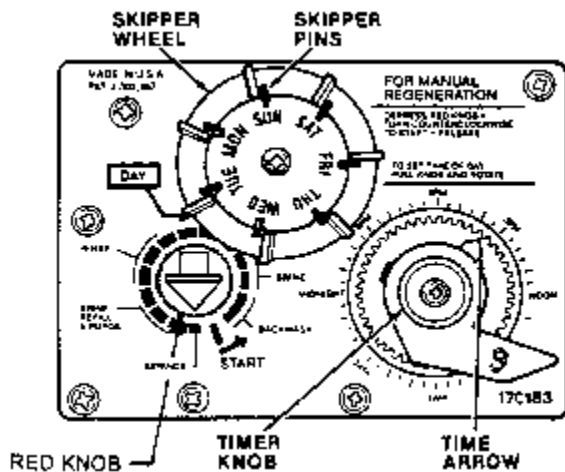

FIG. 14
- Step 2: Remove clear cover from timer face by pulling the two black lock pins outward. Depress the red knob (*Fig. 14*) and rotate anti-clockwise to backwash position, release red knob, wait for valve drive to index to backwash position, (if not already in this position) spindle fully out. (*Fig.11*).
- Step 9: Set time of day, pull timer knob (Fig. 14) and set arrow to the time of day (time of your watch) release, make sure that the knob has re-engaged gear, knob right in. Backwash will take place at approximately 2 am. If this time is not convenient it will be necessary to offset the time of day setting to make allowance for the desired time of backwashing. eg. if 4 am is desired, it will be necessary to set the time of day two hours earlier than actual time.